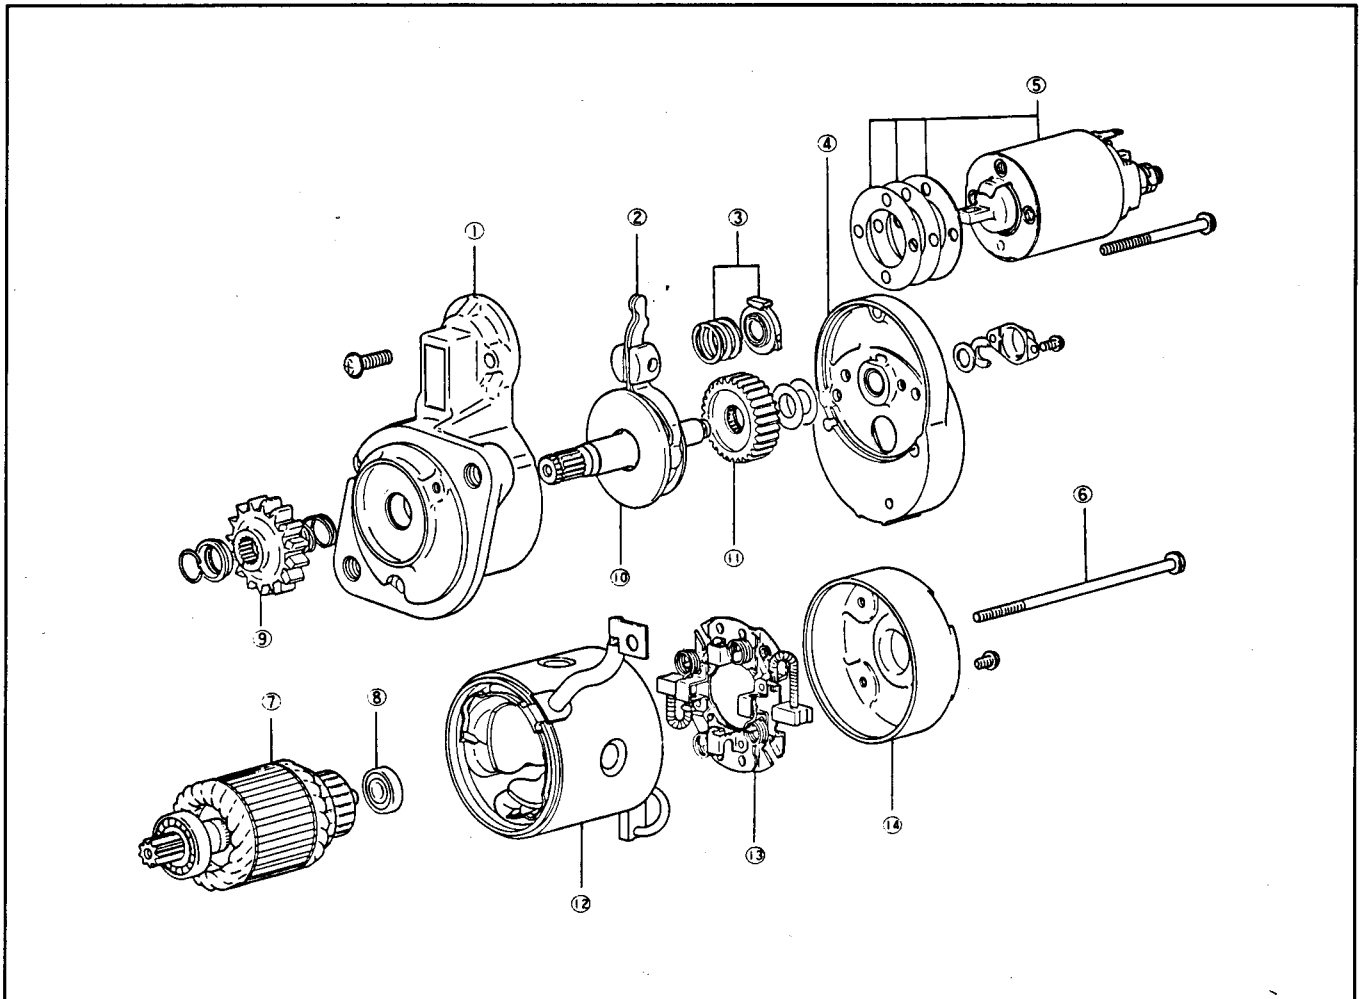

Figure 30
3. Loose two screws securing the magnetic switch (Fig. 30). Remove the magnetic switch.